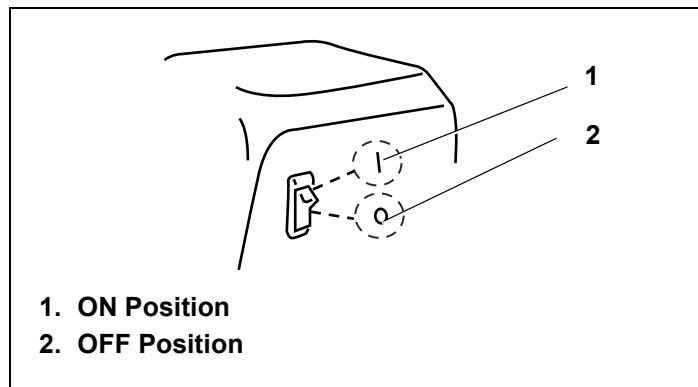

Figure 17. Engine Stop Switch
2. Move engine Stop Switch or Low Oil Shutdown Switch to "ON", if present (see equipment manufacturer's instructions). See Figures 17 and 18.